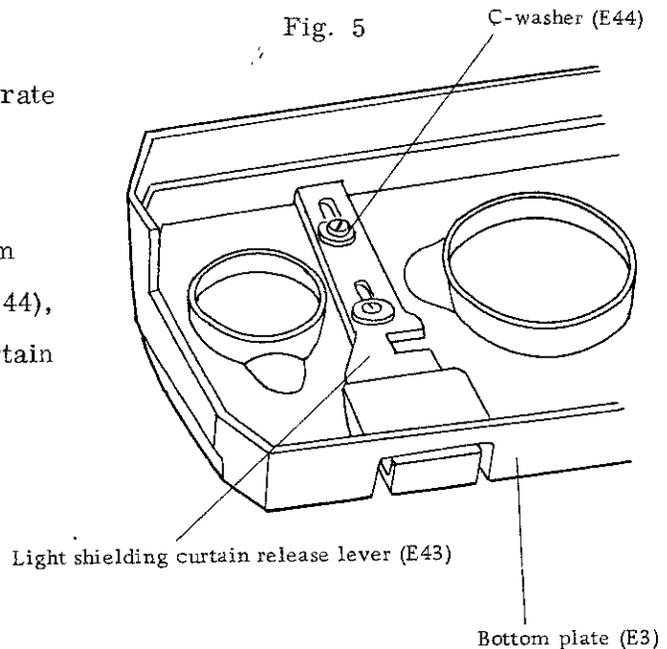

Fig. 6
c. When the light shielding curtain release lever (E43) does not operate lightly, inspect and repair in accordance with the following instructions. Remove the bottom plate (E3) and two C-washers (E44), and check the light shielding curtain release lever for flatness. Replace, if defective. (Fig. 6)